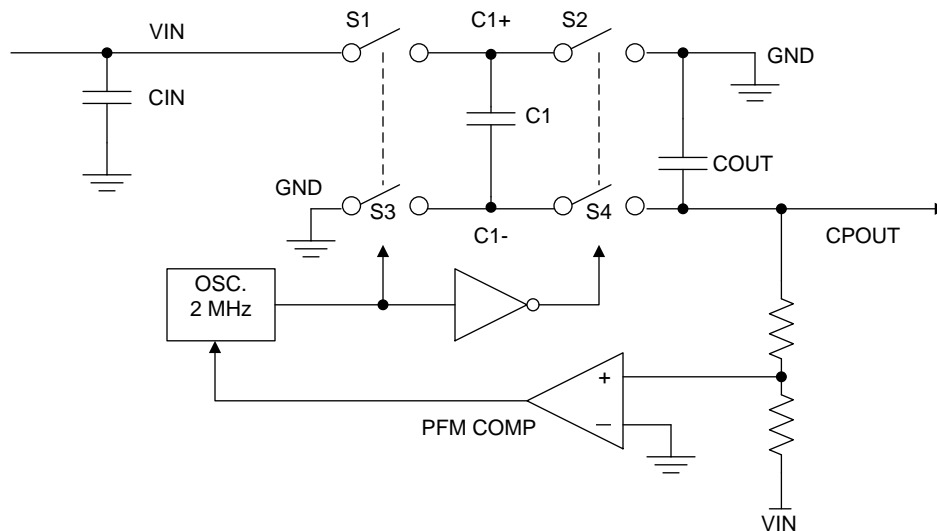

Figure 17. Voltage Inverting Principle
The voltage inverter portion of the LM27761 contains four large CMOS switches which are switched in sequence to invert the input supply voltage. Energy transfer and storage are provided by external capacitors. Figure 17 shows the voltage switches S2 and S4 are open. In the second time interval, S1 and S3 are open; at the same time, S2 and S4 are closed, and C1 is charging C3. After a number of cycles, the voltage across C3 is pumped into V_{IN} . Because the anode of C3 is connected to ground, the output at the cathode of C3 equals $-(V_{IN})$ when there is no load current. When a load is added the output voltage drops determined by the parasitic resistance ($R_{DS(ON)}$ of the MOSFET switches and the equivalent series resistance (ESR) of the capacitors) and the charge transfer loss between the capacitors.
- R_{SW} is the sum of the ON resistance of the internal MOSFET switches shown in Figure 17. (1)